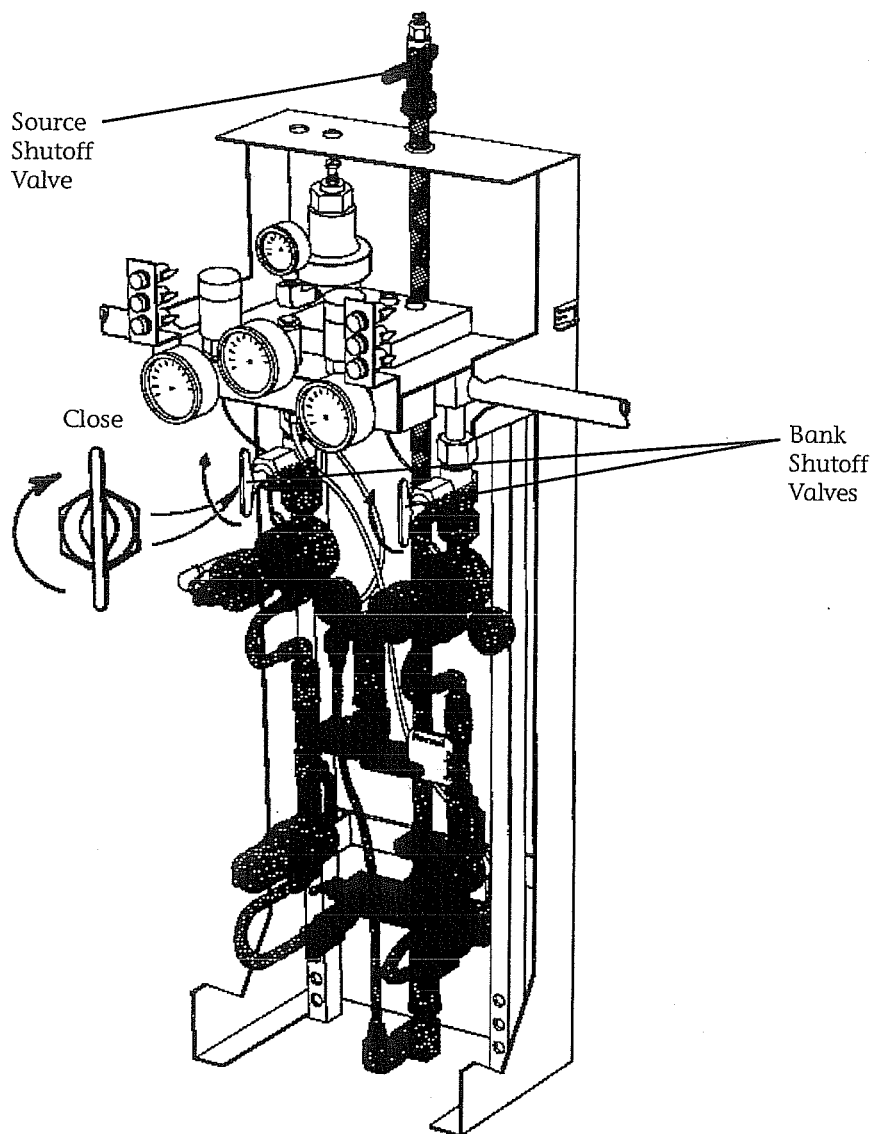

Figure 4-10
1. Close the medical gas source shutoff valve. (Figure 4-10)
2. Close both bank shutoff valves and depressurize the manifold. (Figure 4-10)
5. Open the medical gas source shutoff valve. (Figure 4-10)